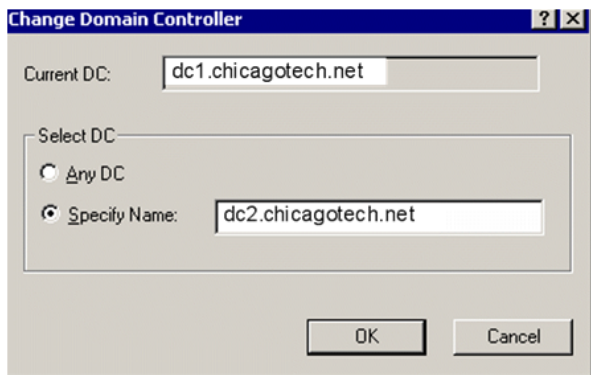

Figure 1. Change Domain Controller Dialog Box
9. Right-click **Active Directory Schema** in the console tree and select **Change Domain Controller** to launch the Change Domain Controller dialog box (Figure 1).